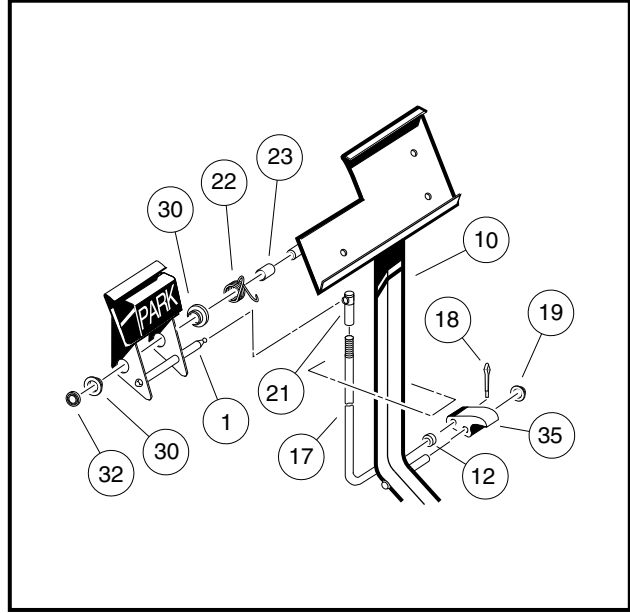

Figure 5-4 Park Brake Assembly
**NOTE:** *New push nuts (19) and (32) must be used when reassembling the park brake (Figure 5-4, Page 5-6).*
- 3.2. To remove the park brake pedal (1), remove the push retainer nut (32), disconnect the torsion spring (22) (**Figure 5-4, Page 5-6**) and slide the pedal off of the shaft. **See preceding NOTE.**
1. From the bottom side of the floorboard, insert the park brake rod (17) through the brake pedal assembly opening as shown (**Figure 5-4, Page 5-6**). Then install the park brake pawl (35) onto the shaft on the brake pedal assembly (10) and also insert the park brake rod (17) into the park brake pawl.
2. Install the push nut (19) on to the park brake pawl shaft.
3. Install the spacer (23) and torsion spring (22) on the park brake pedal shaft on the brake pedal assembly.
4. Install the two bushings (30) in the park brake pedal and position the park brake pedal on the shaft on the brake pedal assembly weldment (10) (**Figure 5-4, Page 5-6**). Then attach the ends of the torsion spring to the park brake pedal and to the brake pedal weldment as shown (**Figure 5-5, Page 5-7**).
5. Install the push nut (32) on the park brake pedal shaft (**Figure 5-4, Page 5-6**).
6. Connect park brake rod (17) with ball joint (21) to the ball stud on the park brake pedal assembly (**Figure 5-4, Page 5-6**).